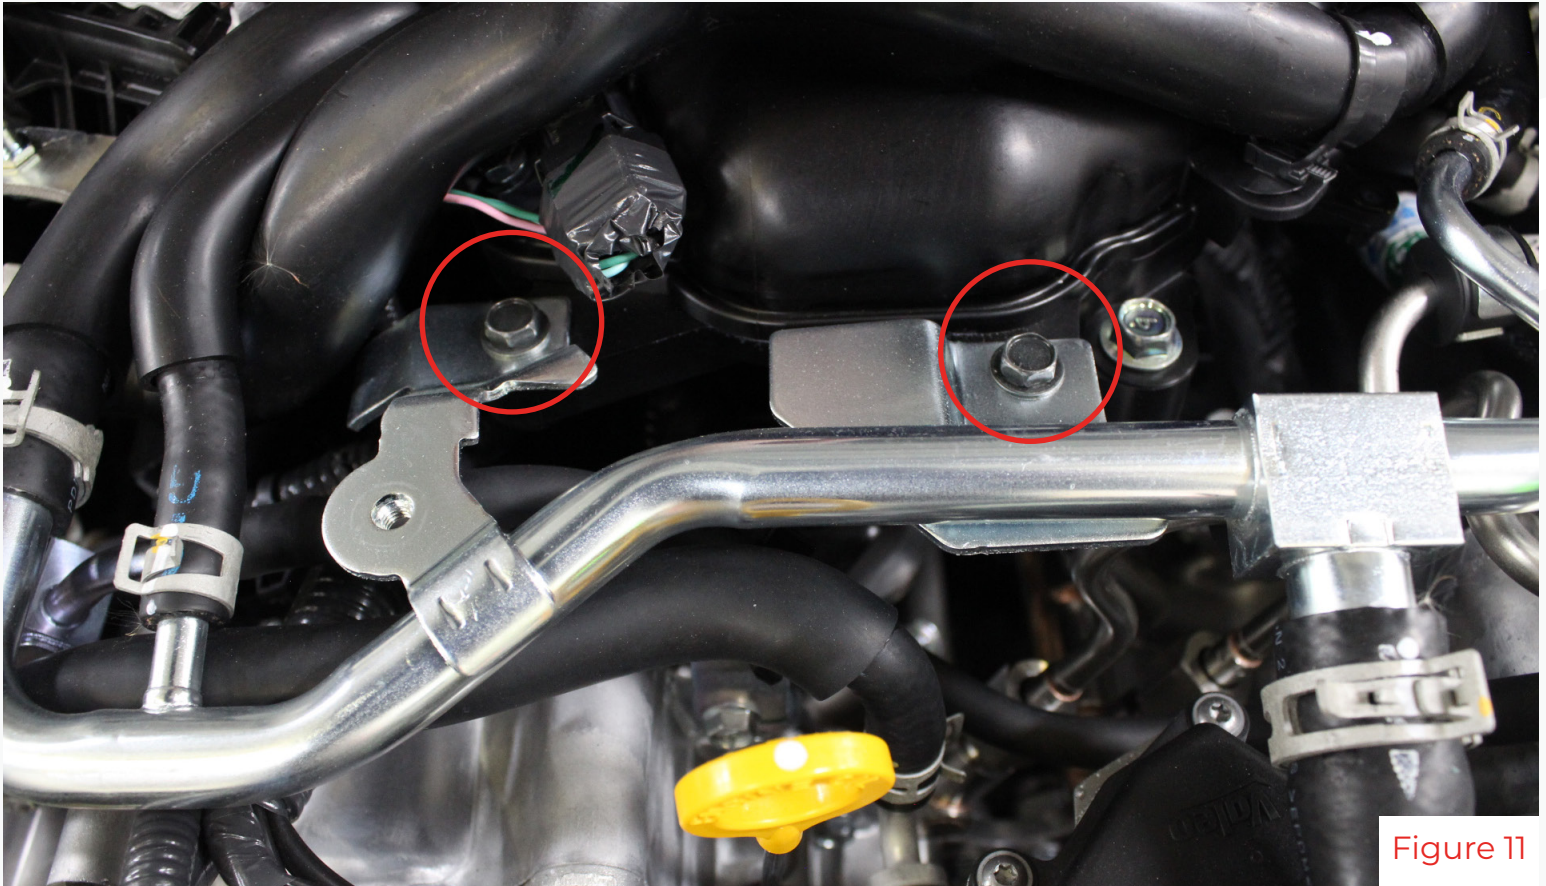

Figure 11
6. Remove the two bolts under the water line holding the coolant crossover pipe to the manifold(fig 11).